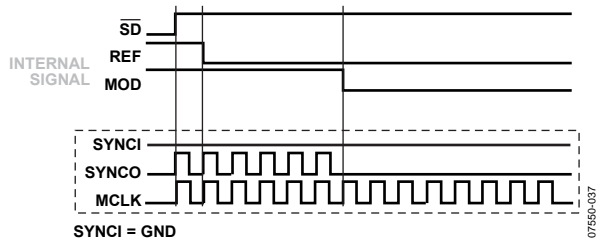

Figure 37. SYNCI = GND or VDD
- SYNCI = GND or VDD. SYNCO stops generating pulses. The modulator is controlled by an internal clock signal, as shown in Figure 37.